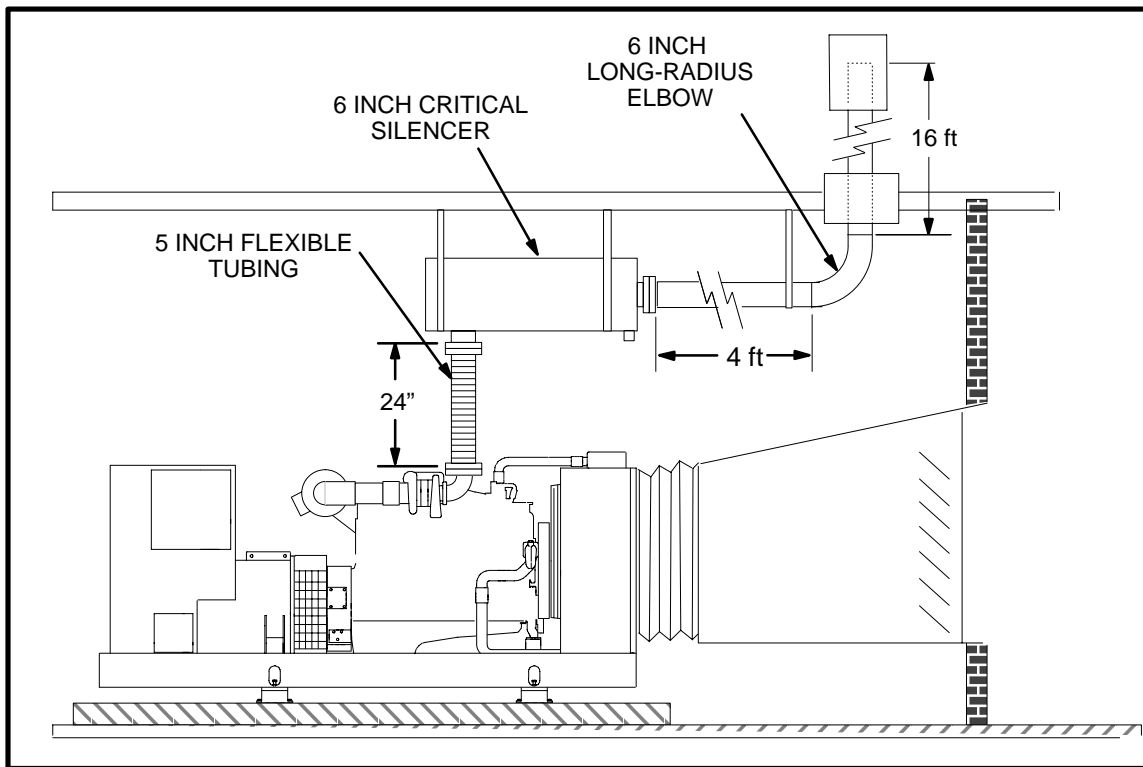

Figure 6–11. Sample Exhaust System for Calculation.
3. Find the back pressure at the given exhaust flow per unit length of pipe for each nominal pipe diameter used in the system. In this example, 5 inch and 6 inch nominal pipe is used. Following the dashed lines in **Figure 6–13**, 5 inch pipe causes a back pressure of approximately **0.34** inches WC per foot and 6 inch pipe approximately **0.138** inches WC per foot.